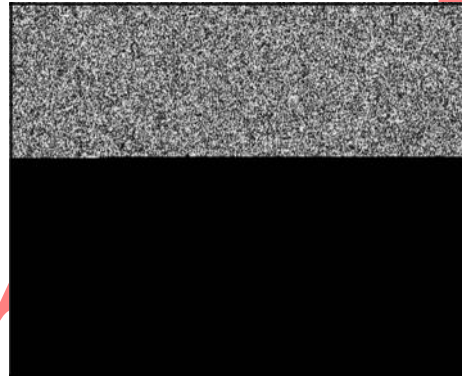

Figure 18
Some Vertical model 280000s utilized a sealed starter clutch on the rewind starters. The starter clutch assembly consists of a seal (A, Figure 18), ratchet (B), clutch housing (C), retainer cover (D), and 6 ball bearings (E).
3. Stand ratchet upright on work surface and add one or two drops of clean oil to the lubrication hole in the Welch plug (B, Figure 18). Allow several minutes for the oil to be absorbed by the felt disc inside the ratchet.
1. Mark center of rivets holding ring gear (**A**, Figure 18) to flywheel, with a center punch.